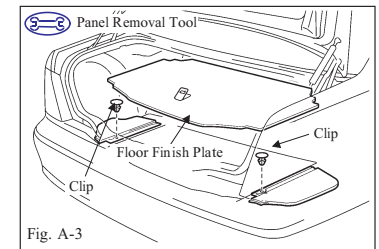

Fig. A-3
- i. Remove the two (2) clips and deck trim side boards on both sides. (Fig. A-3)